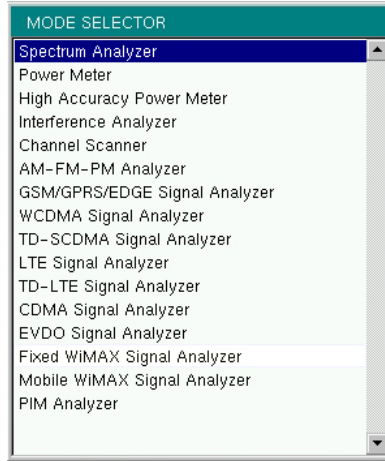

Figure 2-13. Mode Selector List Box
To change to another application or measurement mode, press **Shift**, then the **Mode (9)** key to display the Mode Selector list box, illustrated in Figure 2-13. Use the directional arrow keys or the rotary knob to highlight the desired mode, then press **Enter** to switch to the selected application. The measurement modes available for selection depend on the options that are installed and activated on your instrument.